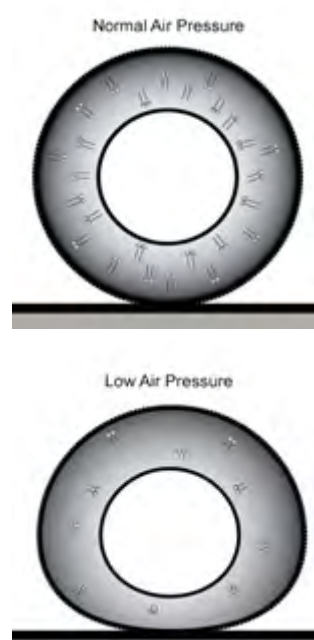

Figure 2. When temperature decreases, molecules move slower. This decrease in velocity reduces the force applied to the tire causing a less inflated tire.
Temperature (T) is the property of matter which reflects the kinetic energy of the particles. There are several standardized scales used to measure this value (e.g., Kelvin, Celsius, and Fahrenheit). An increase in temperature means an increase in the motion of atoms in a material (Figure 2). Gas particles move past one another with little restriction, this is why gases occupy an entire container or space, while liquids and solids have a confined volume and surface area.
Pressure (P) is defined as the amount of force gas molecules exert on the area of space they fill. If you have ever had low tire pressure due to cold weather, it was because the gas molecules that fill, were moving slower. Therefore, they did not exert as much force on the inside of the tire as they normally would (Figure 2). Changing a container's volume can also change pressure.